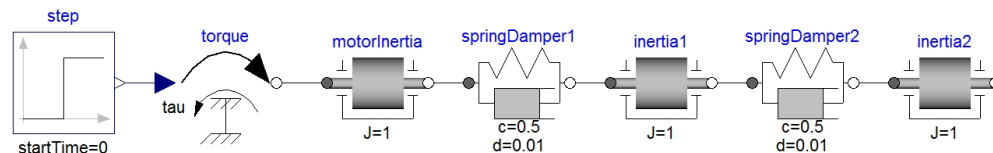

Figure 7: Dymola model of motor with two elastic loads
- (f) Start Dymola. Choose 'File' → 'New' → 'Model'. Enter the name of the model (for example 'MotorWithElasticLoads'). Let the rest be empty, and press 'OK'. In the pane at the left hand side, press/unfold 'Modelica' to open the Modelica Standard Library. Open the library 'Mechanics' → 'Rotational'. Drag and drop 'Sources' → 'Torque', 'Components' → 'Inertia' and 'Components' → 'SpringDamper' to put together the motor with two elastic loads as shown in Figure 7. Thereafter open the library 'Blocks'. Drag and drop a 'Sources' → 'Step' to attach a step input to the torque.
Simulate the model and plot the rotational speed of the last load. Compare these results with the ones obtained using Simulink/Matlab. Furthermore, comment on the amount of information contained in the graphical view of the Modelica model (Figure 7) and in the Simulink version of the overall model.